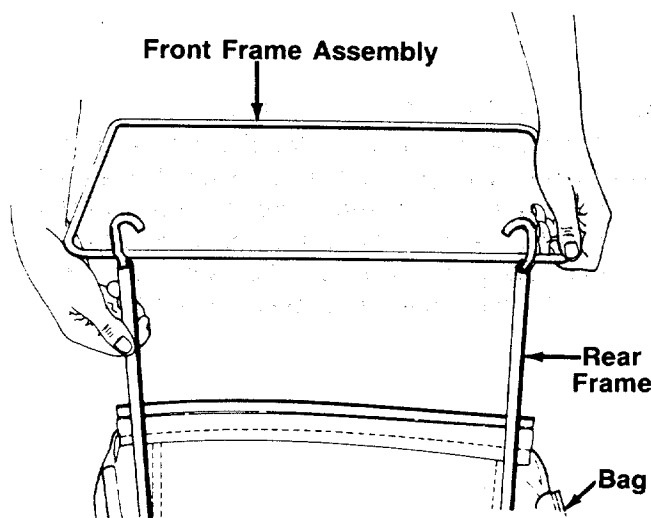

FIGURE 10.
3. Join the rear frame and front frame assembly as shown in figure 10.